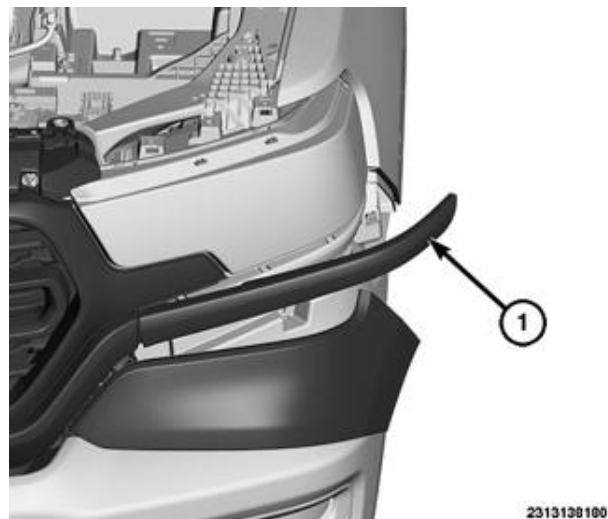

Figure C11 – Lamp Molding
15. Release the moldings from the front lamp units, if equipped (Figure C11).
27. Install the moldings to the front lamp units, if equipped (Figure C11).